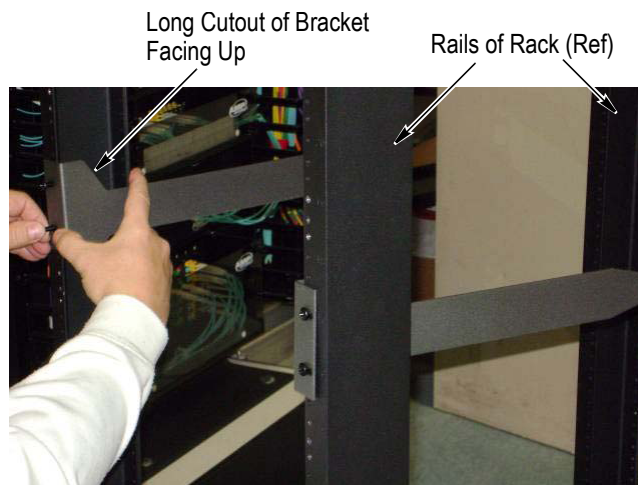

Figure 2
2. Using 4 of the 12-24 UNC-2A screws, install the 2 rear brackets onto the rack or cabinet (2 screws per bracket, 1 bracket per side of rack or cabinet). Observe the arrow and “TOP” marking on each bracket (shown in Figure 1) for correct orientation for installation (the long cutout of the bracket should be facing up). See Figure 2. **DO NOT** tighten the screws at this time.